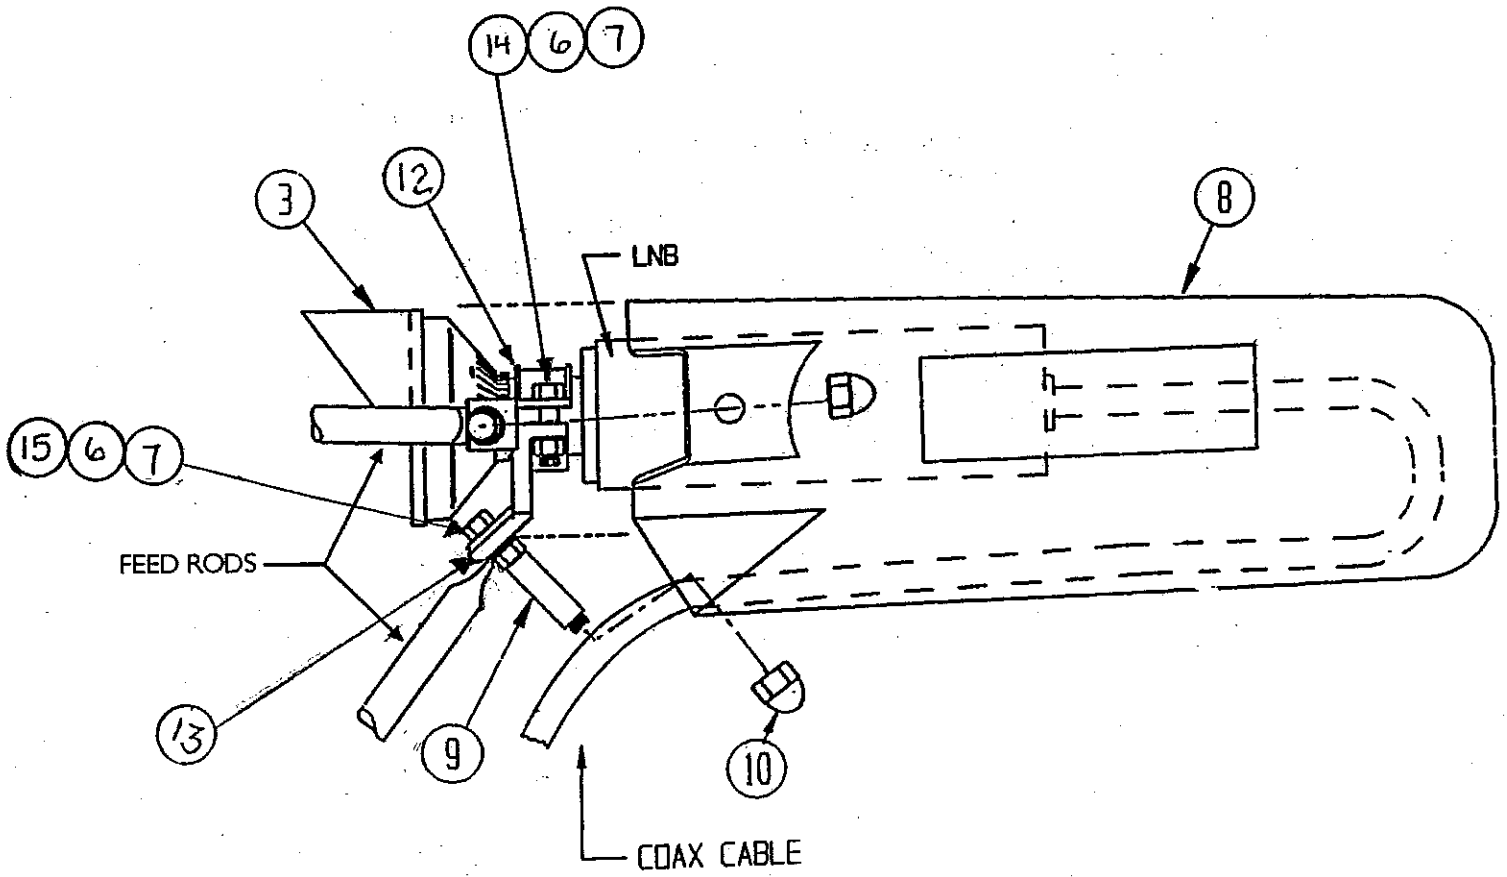

Figure 2.2-2
- Step 2:** Attach the feed mounting bracket (item #13) to the ends of the feed rods with 1/2-20 x .75" bolt, lock washer, and hex nut. (Item #14,6,7) as shown in figure 2.2-2. Tighten all feed support hardware now to 5 ft/lb.
- Step 4:** Place the feed assembly into the feed mounting bracket and secure by placing the top feed clamp (item #12) over the feed horn and secure with 1/4-20 bolts, lock washers, and hex nuts as shown in figure 2.2-2.
- Step 5:** After final polarization adjustment is made, place spacer (item #9) on lower feed rod bolt and fit cover (item #8) over feed assembly and attach with three [3] 1/4" acorn nuts (item# 10) and spacer (item #9) as shown in figure 2.2-2. Cable should be secured to lower feed rod.